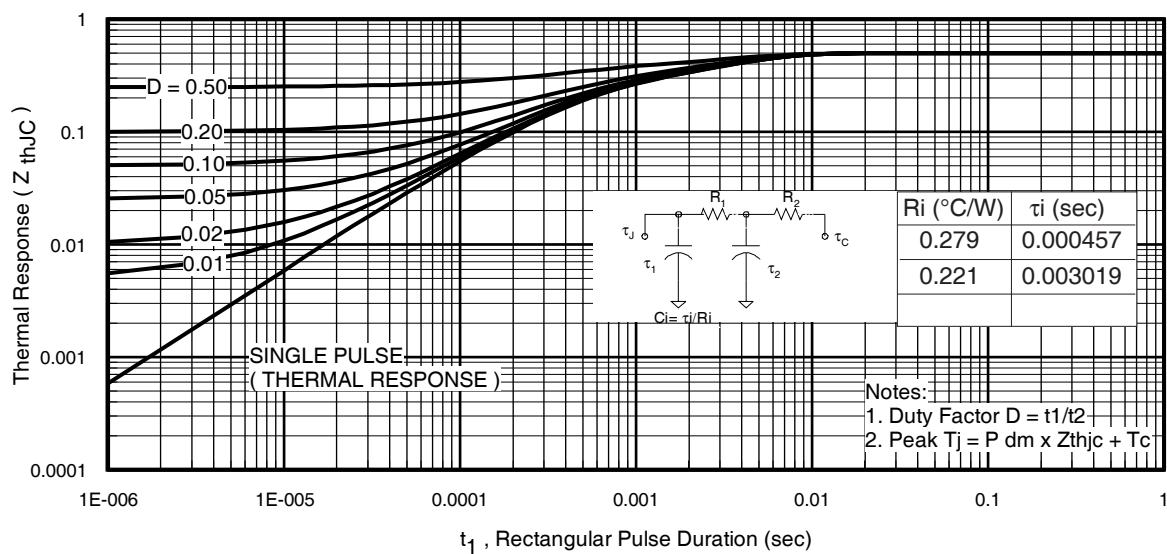
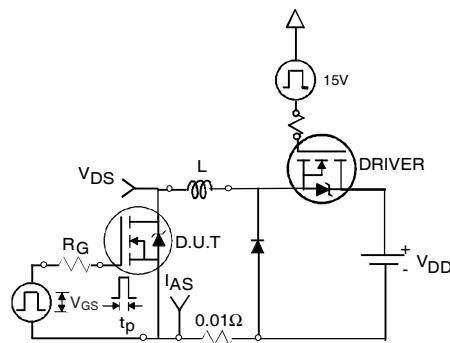

Fig 11. Maximum Effective Transient Thermal Impedance, Junction-to-Case
Fig 12a. Unclamped Inductive Test Circuit
- ① Repetitive rating; pulse width limited by max. junction temperature. (See fig. 11).
- ② Limited by $T_{J\text{max}}$, starting $T_J = 25^\circ\text{C}$, $L=0.095\text{mH}$, $R_G = 25\Omega$, $I_{AS} = 75\text{A}$, $V_{\text{GS}} = 10\text{V}$. Part not recommended for use above this value.
- ③ $I_{SD} \leq 75\text{A}$, $di/dt \leq 340\text{A}/\mu\text{s}$, $V_{\text{DD}} \leq V_{(\text{BR})\text{DSS}}$, $T_J \leq 175^\circ\text{C}$.
- ④ Pulse width $\leq 1.0\text{ms}$; duty cycle $\leq 2\%$.
- ⑤ $C_{\text{oss eff.}}$ is a fixed capacitance that gives the same charging time as C_{oss} while V_{DS} is rising from 0 to 80% V_{DSS} .
- ⑥ Limited by $T_{J\text{max}}$, see Fig.12a, 12b, 15, 16 for typical repetitive avalanche performance.
- ⑦ This value determined from sample failure population.
3. Equation below based on circuit and waveforms shown in Figures 12a, 12b.
- Z_{thJC}(D, t_{av}) = Transient thermal resistance, see figure 11